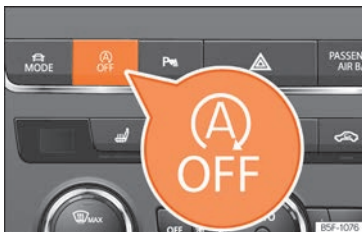

Fig. 257 Centre console: Start-stop system button.
- To manually switch on/off the Start-Stop system, press the  button »» Fig. 257.